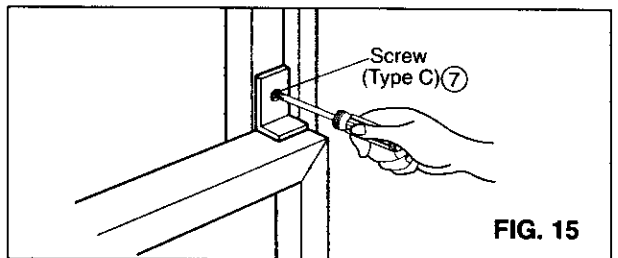

FIG. 15
- 15** Attach the window locking bracket (2) with TYPE C screw (7). (FIG. 15)